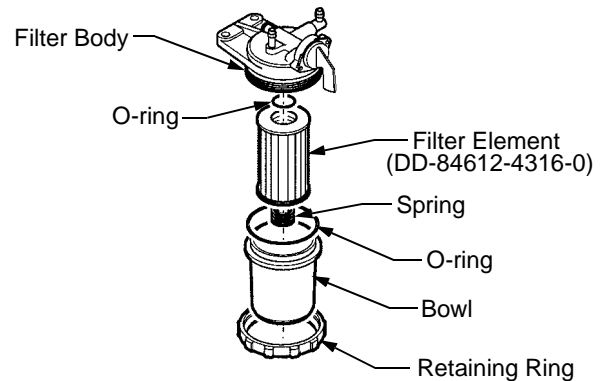

Figure 53
- Unscrew the retaining ring and remove the ring and fuel filter bowl from the filter. Use care not to lose the O-ring and spring. See Figure 53.